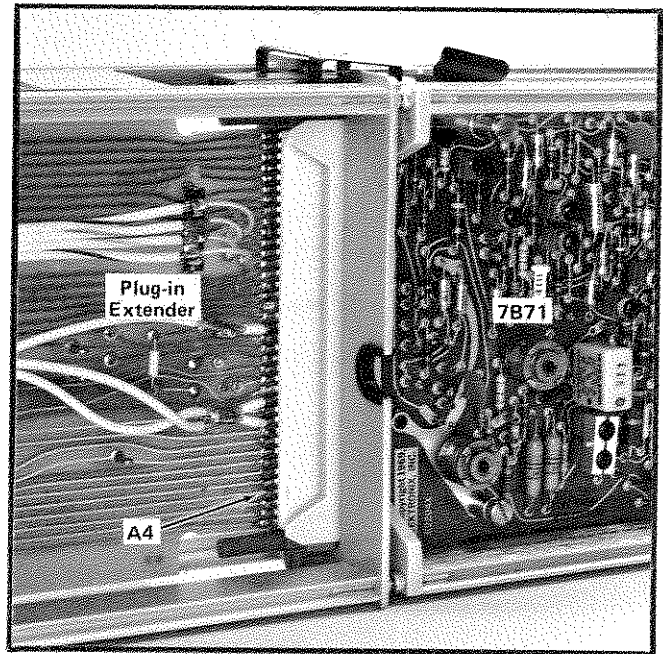

Fig. 5-5. Location of interface connector A4.
- b. Connect a probe from the 7A16 Input to interface connector A4 (plug-in connector at the rear of the 7B71). See Fig. 5-5.